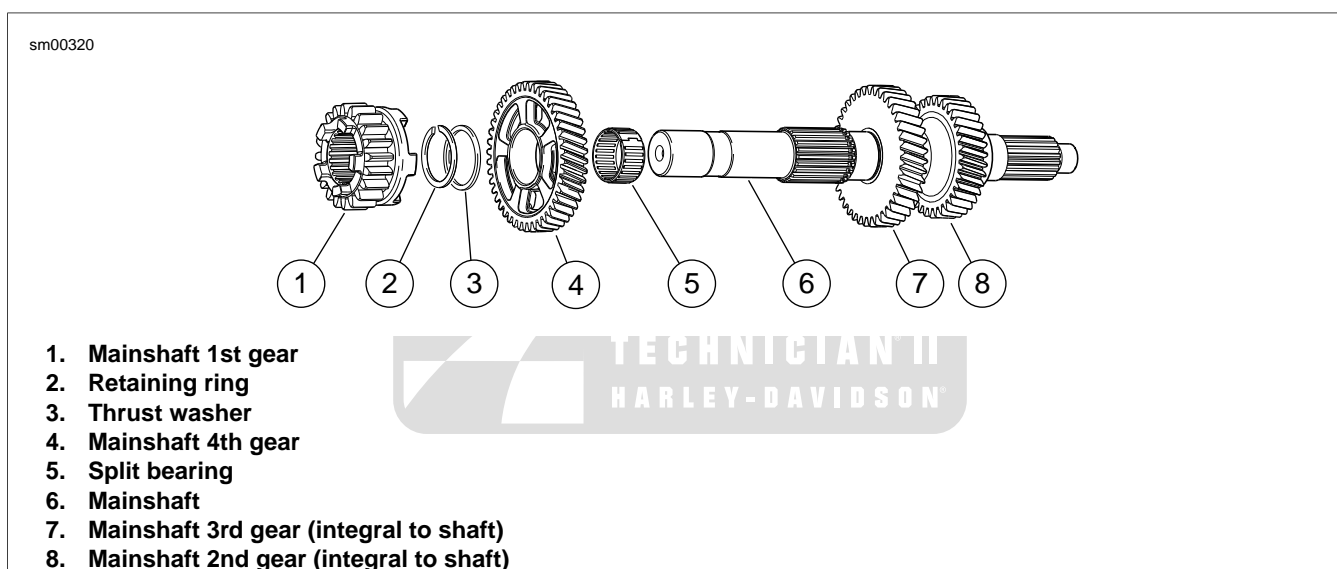

Figure 5-64. Transmission Mainshaft
1. See Figure 5-64. Install **new** split bearing (5) in 4th gear position on mainshaft.
2. Install 4th gear (4) and thrust washer (3).
3. Using RETAINING RING PLIERS (Part No. J-5586-A), expand and install new retaining ring (2).
4. Install 1st gear (1).